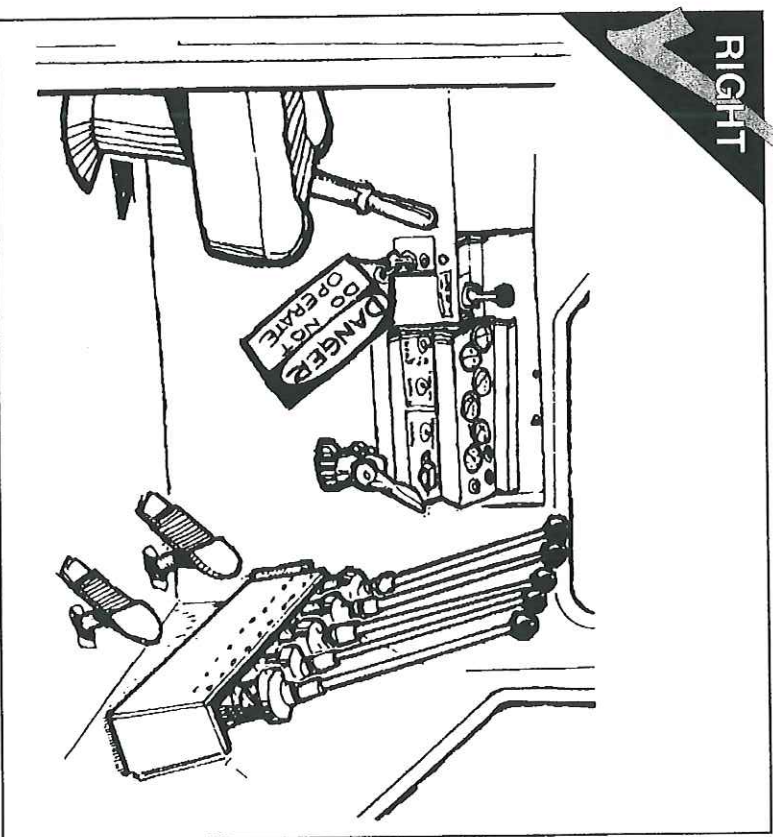

FIG. 55
- While maintenance work is being done, the starting controls should be **tagged**. The tag should be removed only by someone who is aware of the circumstances, and who can assure that it is safe to do so. (FIG. 55)